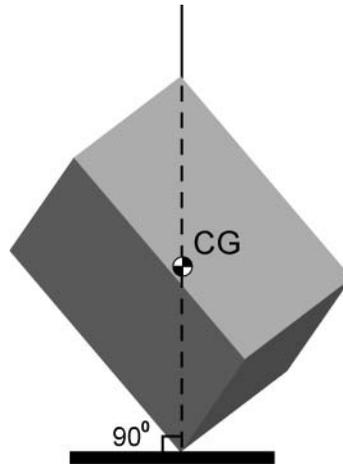

Figure 10: With an Object Balanced on Its Point, the CG Lies on the Line Normal to the Surface
- Likewise, if you balance an object on one of its points, the center of gravity will lie on the normal line passing through the point. See Figure 10.